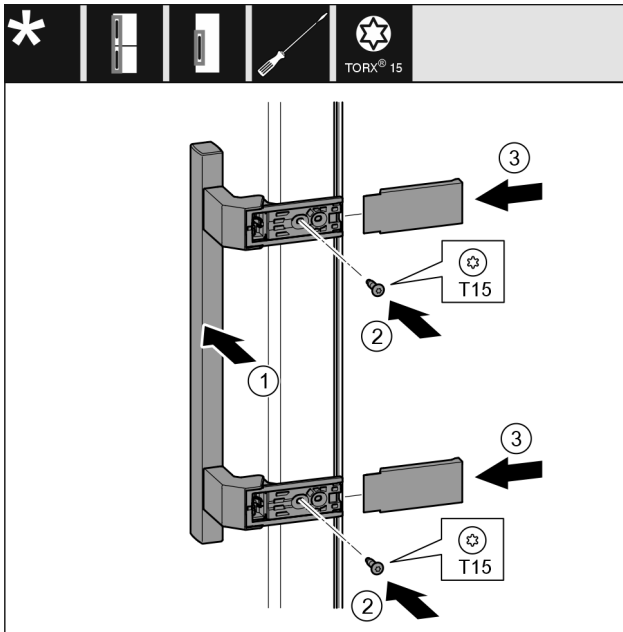

Fig. 41
- ▶ Place the handle Fig. 41 (1) on the opposite side.
- ▶ Tighten screws Fig. 41 (2) with screwdriver.
- ▶ Place the covers Fig. 41 (3) on the side and push them on.